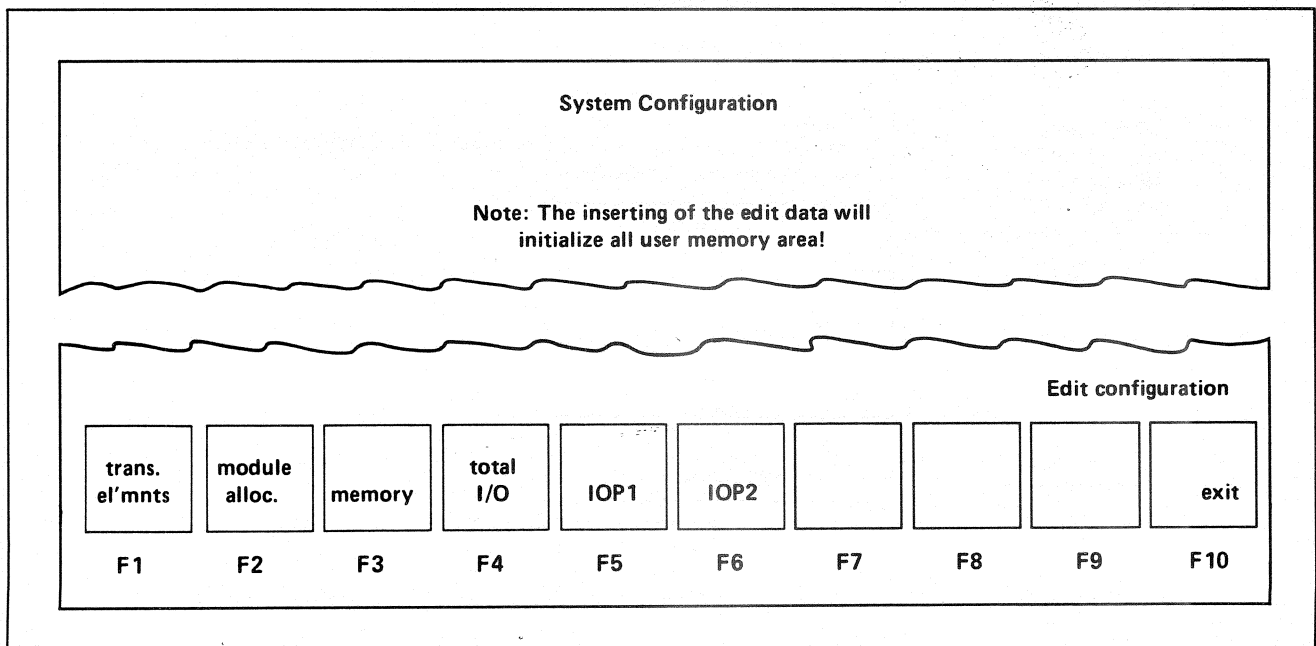

Figure 7-8. Edit Configuration Screen
3. The edit configuration, entered when a valid system configuration exists, allows any of the configuration characteristics to be changed, as shown in Figure 7-8.